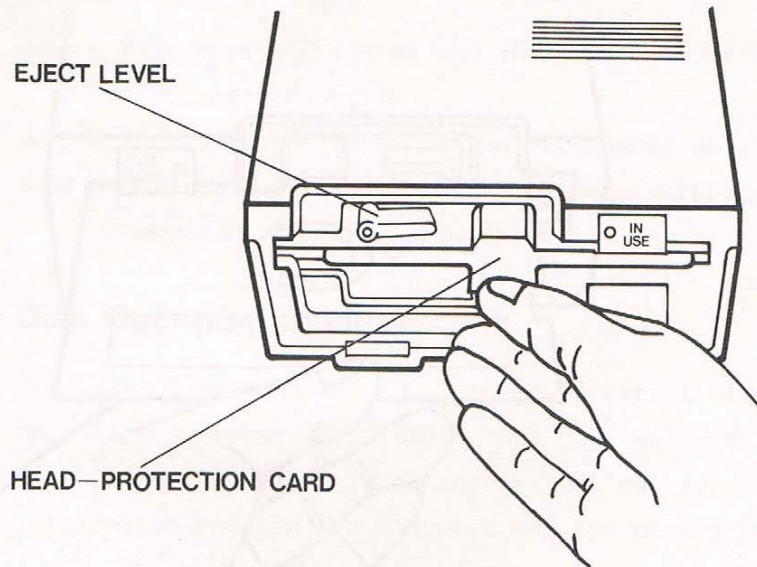

Figure 5 Removing the head protection card
- Step 2.** Take the head-protection card out of the drive slot (see figure 5). Keep this card and insert it again before transporting.